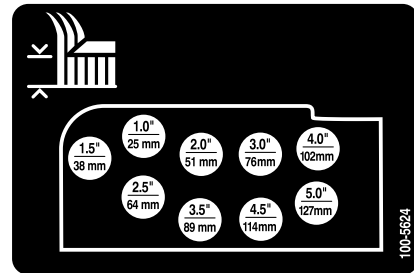

Figure 19
- Mount the height-of-cut chains to the desired height-of-cut hole (Figure 19) with the clevis pin and hairpin cotter.